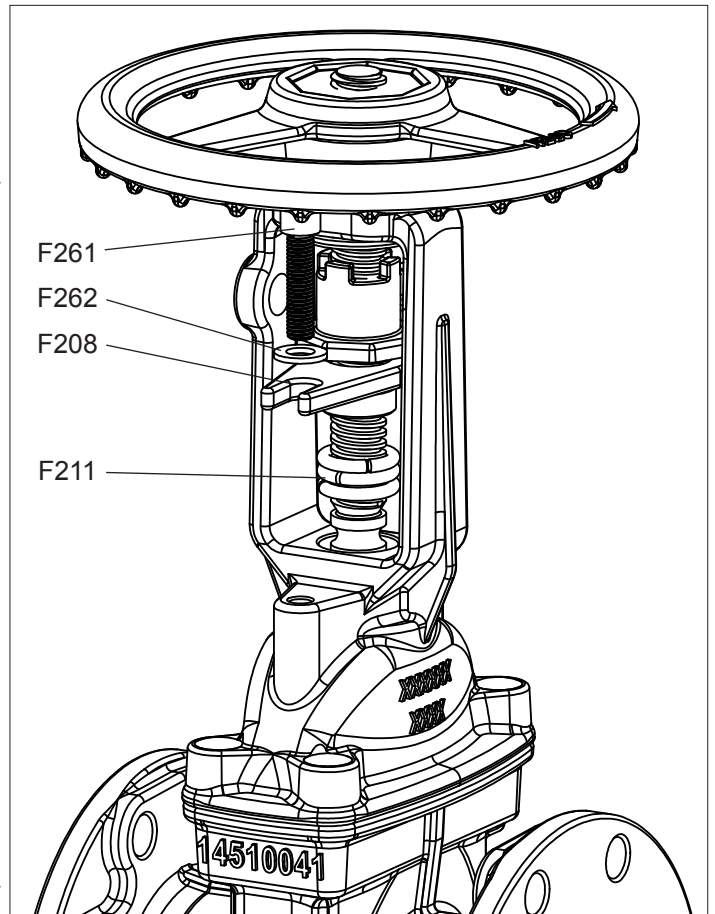

Fig. 7A
STEM SEAL O-RING REPLACEMENT (Figs.7A,7B)
1. Remove the two upper Gland Follower Bolts (F261) and associated Washers (F262). Lift the Gland Follower (F208) up expose the Stem Seal O-rings (F211). (See Fig. 7A)